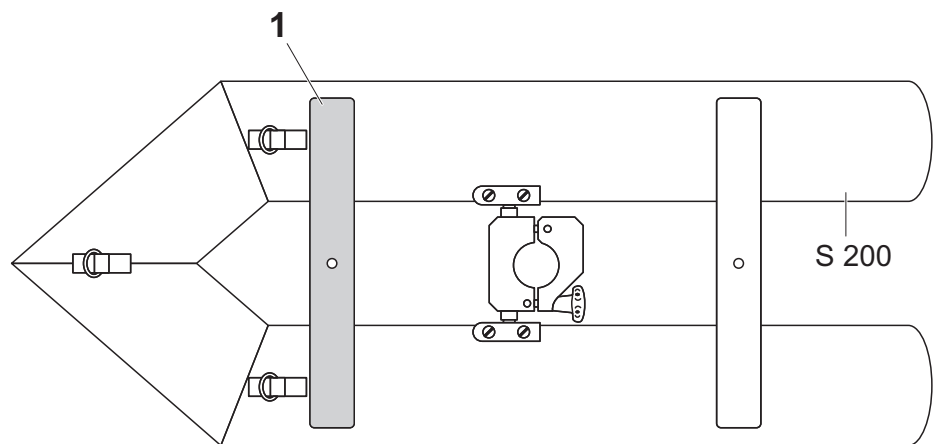

Figure 1: Top view
- Use a PVC adhesive such as Henkel Tangit to glue the rod (1) to the top side of the float as shown in figure 1.